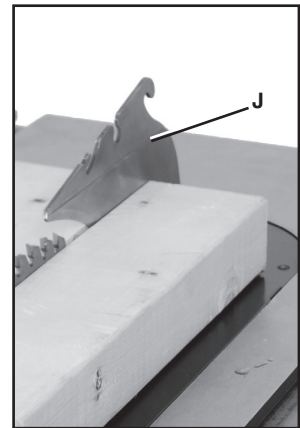

FIG. 26
The riving knife (J) Fig. 26 is a flat plate that fits into the cut made by the saw blade and effectively fights kickback by lessening the tendency of the blade to bind in the cut. **(NOTE: Safety devices removed for clarity in Fig. 26. Be sure to always use safety devices when possible.)**